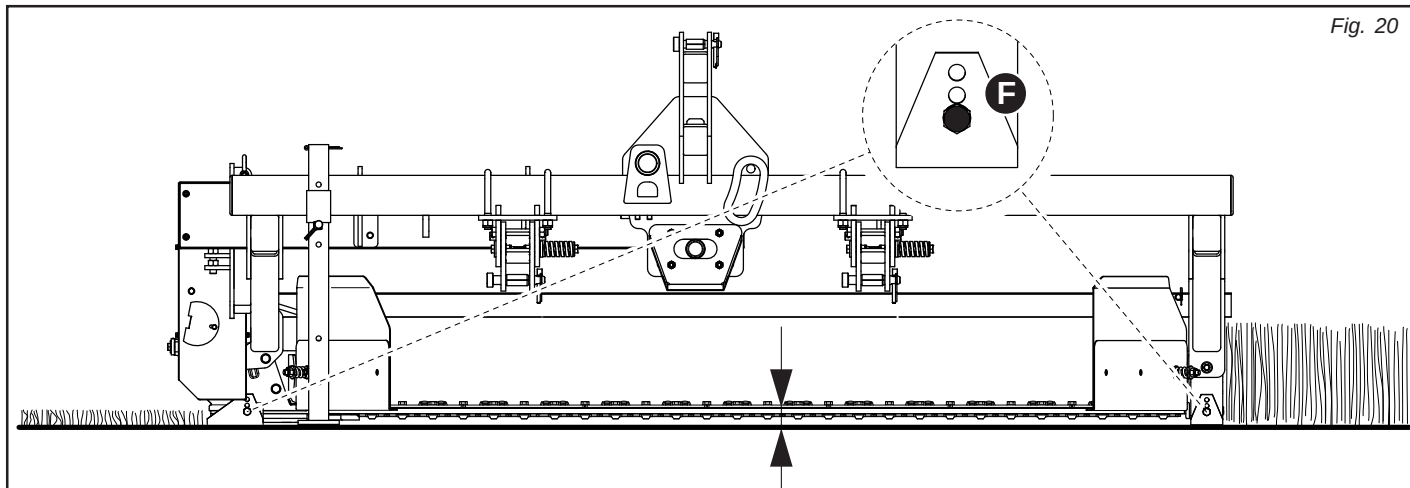

Fig. 20
Adjust the cutting height of the bar by choosing the most suitable of the three available positions (F, Fig. 20) for fastening the skids located under the right and left mowing bar supports. When the surface of the ground is uneven or when the blades get clogged with earth, lift the bar from the ground, i.e. top hole in the worst cases and bottom hole for even ground.
- 4) Fasten the tie-rod (B Fig. 20) to the mower frame and attach the spring (C).